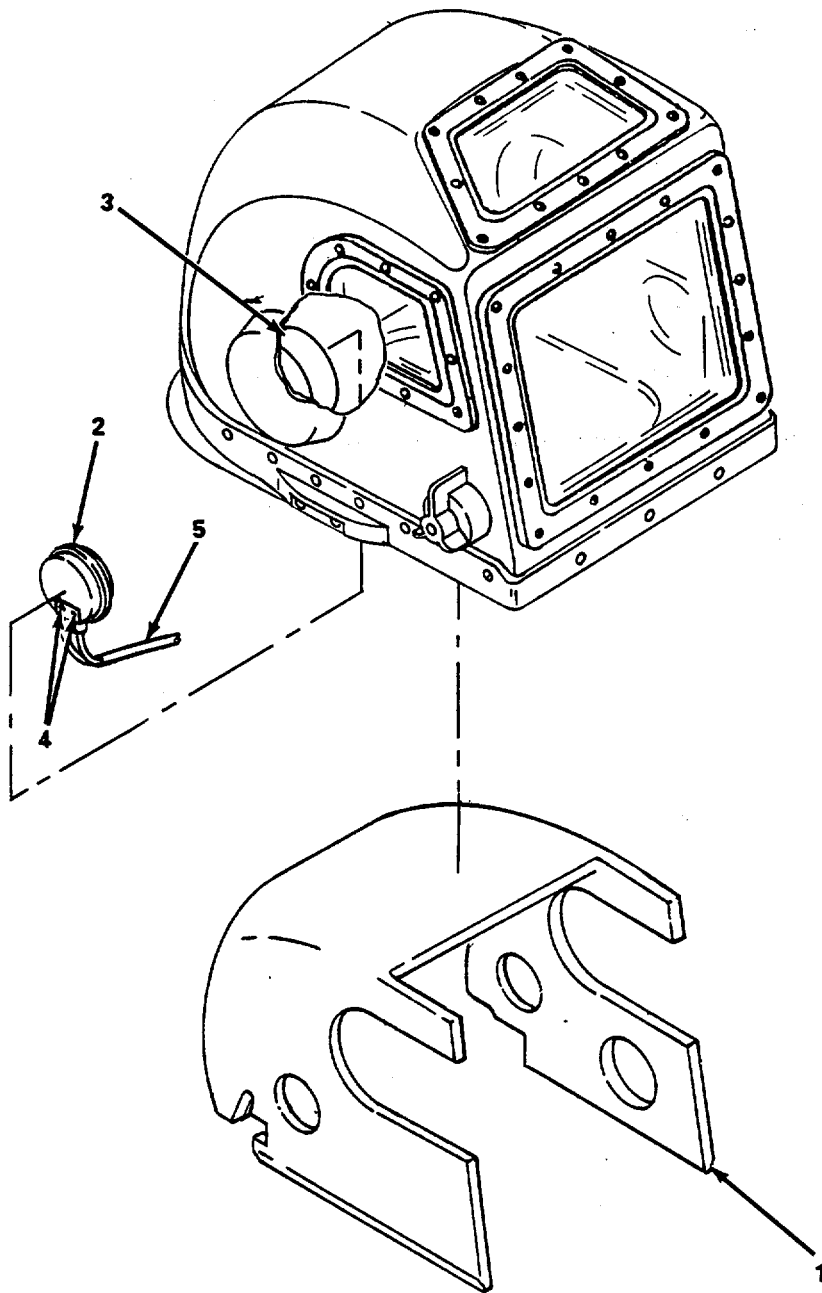

Figure 4-28. Speaker, Replace.
(2) *Replace speaker.* (figure 4-28)